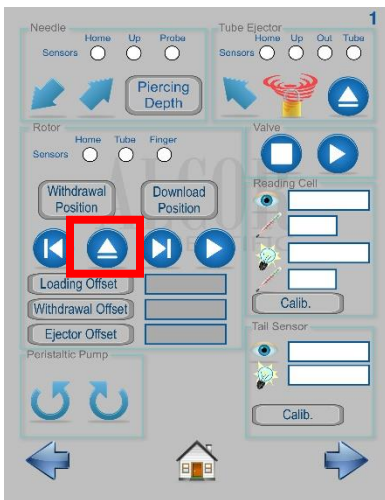

Figure 3
3. Press the reset rotor button as highlighted in red in Figure 3. Once the rotor stops insert bleach tube.